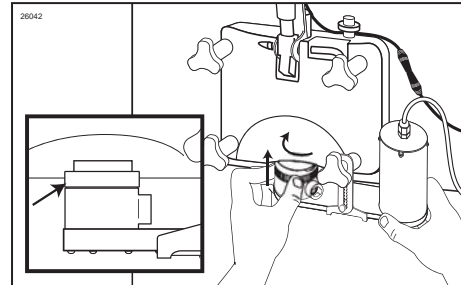

Figure 138
3. Hang the Suspension Bracket on the lower door post and install the Injector Assembly on the preferred side of the freezer. Install the Injector Head locking ring fully over the Spout Adapter so that the locking collar covers the tabs on the Adapter and rotate the locking collar to secure. (See Figure 138.)